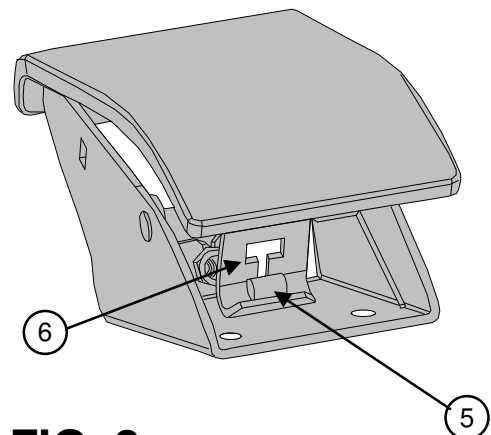

FIG. 3
Insert valve cable end T-bar (5) into the pedal lever (6) (FIG.3)